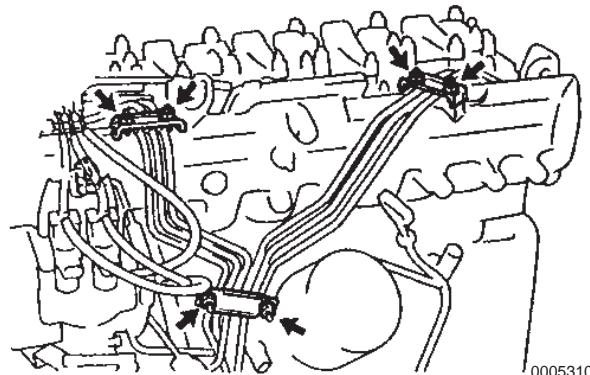

Figure 6-47
9. Install 2 clamps with 4 nuts to the intake manifold (**Figure 6-47**).